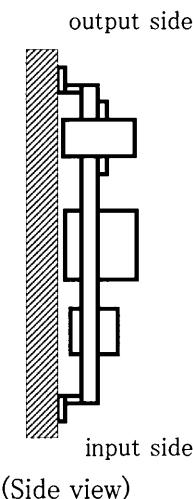

Fig.1.1 Mounting method
- (1) Input : DC36~76V
(2) Output : Rated output
(3) Mounting method : Shown as Fig.1.1